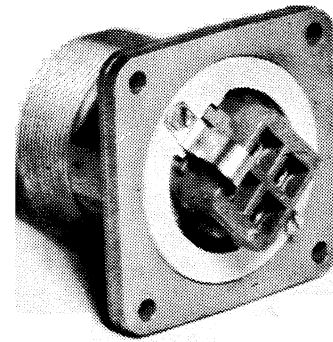

FIGURE 6. BACK VIEW OF TYPICAL AR RECEPTACLE
2. Strip insulation from wires for 60 and 100 amp. receptacles for distance shown on strip gage on insulator. For 30 amp. receptacle strip insulation back 1/2" from wire end. (See Figure 6.)
3. Loosen pressure contact screws in insulator and insert wires into contact recesses in same manner as outlined under APJ plug. (See Figure 6.)
4. Fasten receptacle to back box with gasket properly positioned, using four (4) screws provided. If dust cover is used, put end of chain under one screw. When spring door is used install on receptacle, turning down until door touches receptacle. Continue until hinge is in desired position and door gasket seats fully on receptacle housing. Tighten set screw.